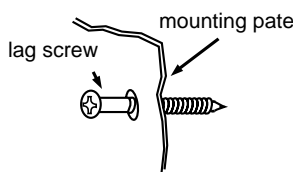

Figure 28
4. Locate the stud holes (3/16") and insert the lag screws through the mounting plate and into the holes. See Figure 28.